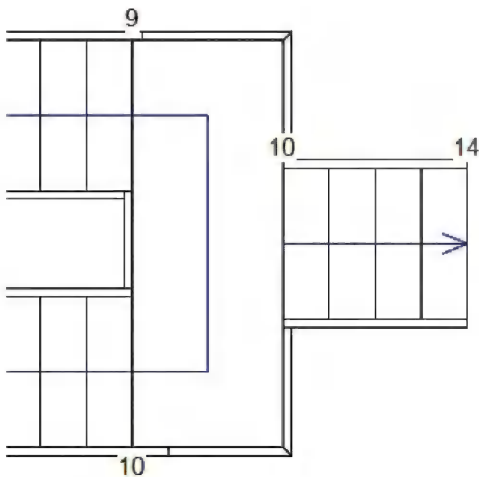

FIGURE 5-3.21 Extra run added to stair
- Draw the stair run (Figure 5-3.21)